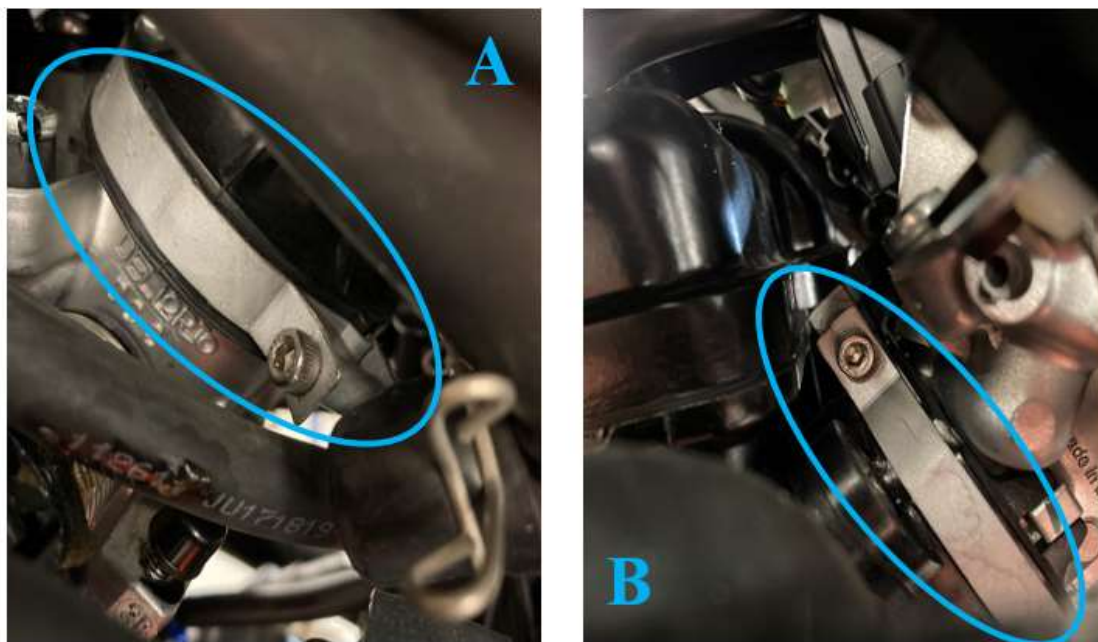

Fig. 2 – Clamp A and B on the throttle body
3. Release clamps A and B of the throttle body (see Fig. 2).
11. Tighten clamps A and B of the throttle body according to specifications (see Fig. 2).